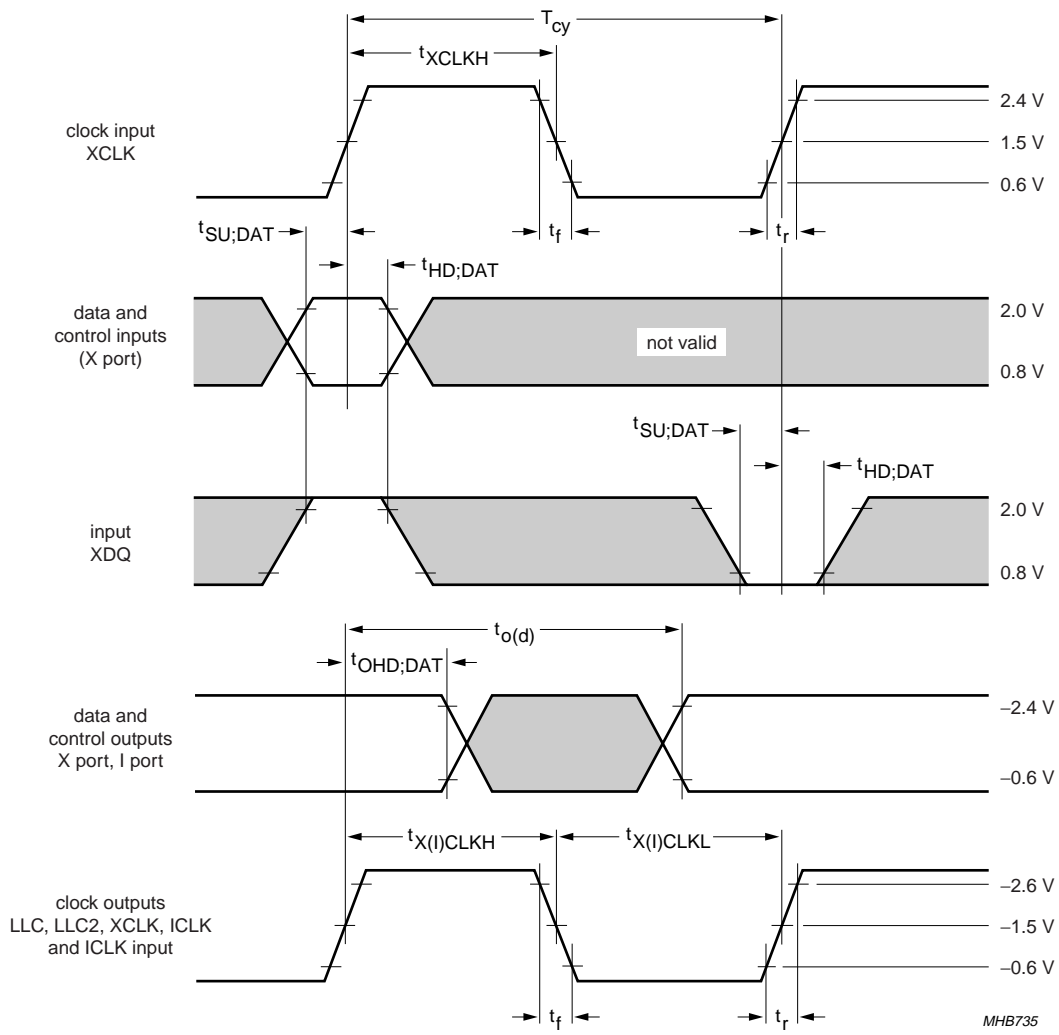

Fig.40 Data input/output timing diagram (X port, RT port and I port).
2. The effects of rise and fall times are included in the calculation of  $t_{OHD;DAT}$  and  $t_{PD}$ . Timings and levels refer to drawings and conditions illustrated in Fig.40.